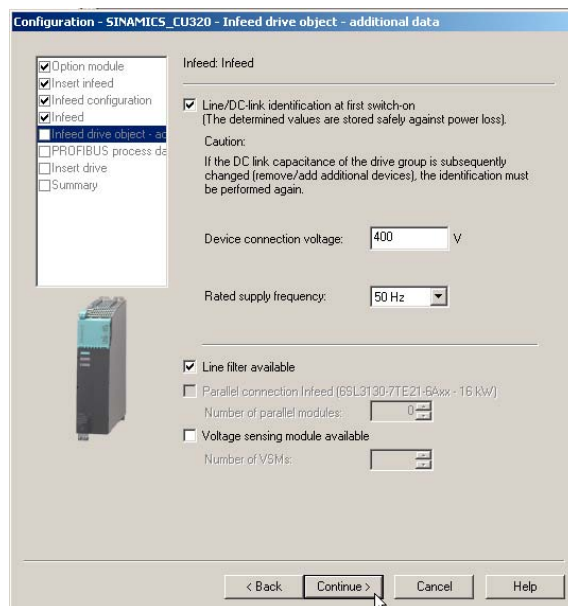

Fig. 3-19 Infeed: further data
6. Click **Continue >** to select further data for the Active Line Module (infeed) (see Fig. 3-19).